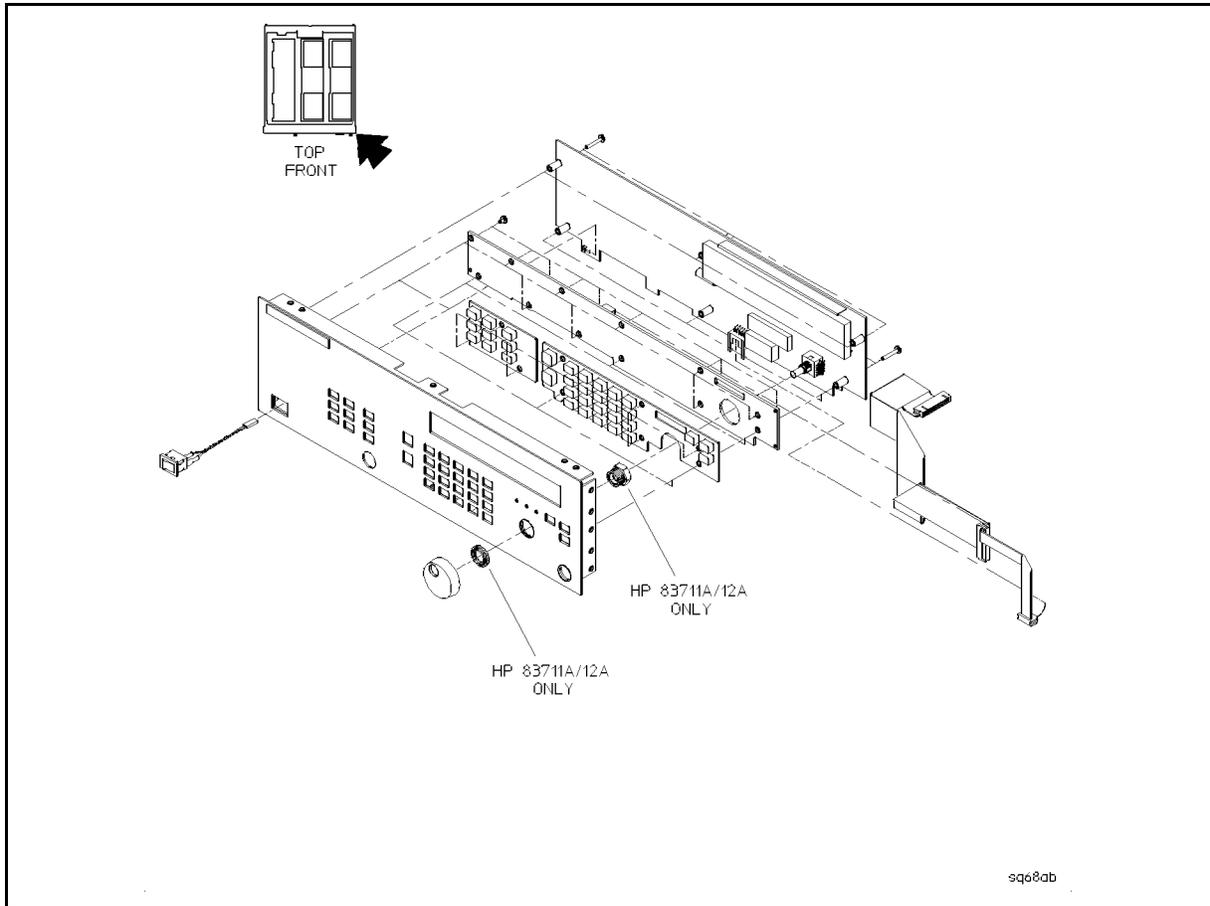

Figure 5-35. Display and Keyboard Removal
2. See Figure 5-35 for the remainder of this procedure.
1. Using a size 10 TORX® screwdriver, remove the nine keyboard screws. See to Figure 5-35.